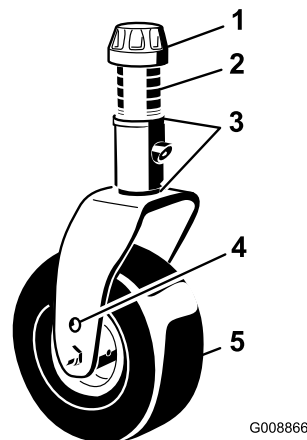

Figure 81
1. Remove the tensioning cap from the spindle shaft and slide the spindle out of the caster arm (Figure 81).